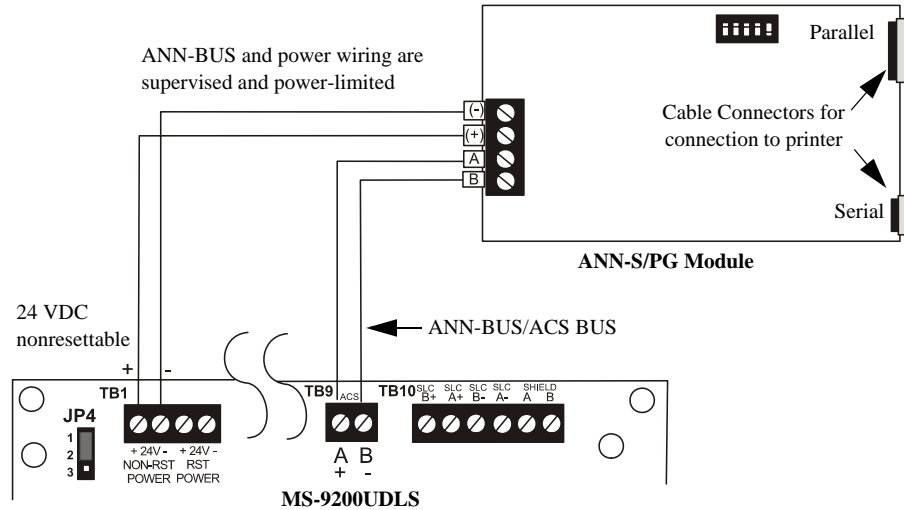

Figure 1.6 ANN-S/PG Connection to FACP
2. Connect the ANN-S/PG to the FACP as illustrated in Figure 1.6
5. Connect a printer to the ANN-S/PG Parallel or Serial connectors (refer to Figure 1.6). Only one printer can be connected.